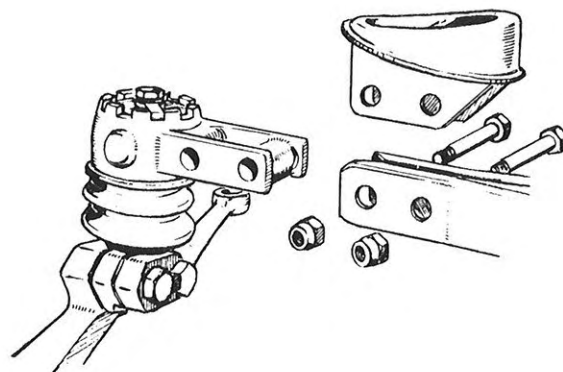

Fig. 18. Removal of upper ball joint and lower spring seat.
2. Loosen and remove the two screws which hold the ball joint to the spring arm. This also loosens the lower spring seat, see Fig. 18.
4. Loosen and remove the two screws which hold the ball joint and lower spring seat to the spring arm. See Fig. 18.